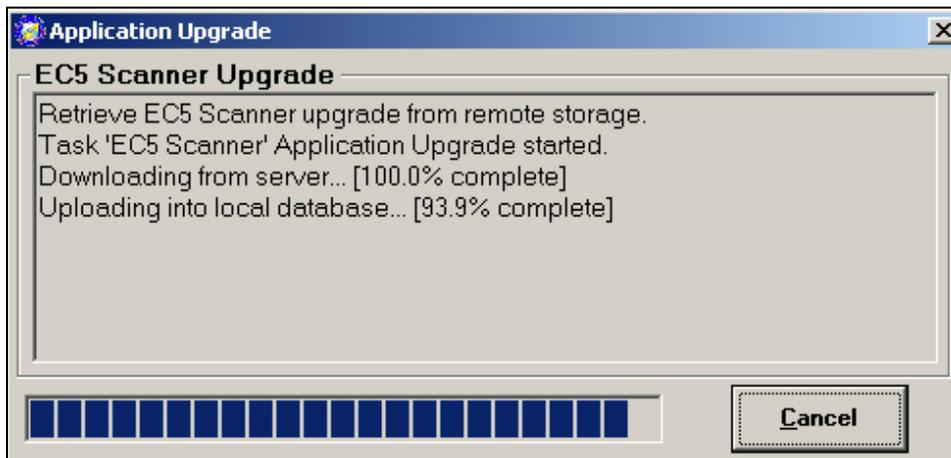

Figure 6.10.7
1. Select 'Tools', 'Check Host For', 'Application Upgrade', 'Scanner Firmware'. The Firmware Upgrade window opens (Figure 6.10.7)